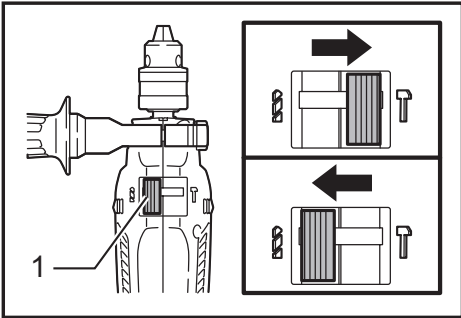

Fig.3
► **Fig.3:** 1. Action mode changing lever